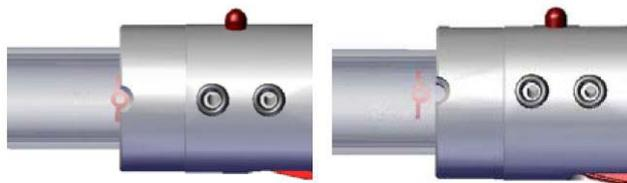

Figure 6-5. Torch assembly - torch body
2. Push the quartz body of the torch fully into the metal torch mount. The marked circle on the quartz torch should be aligned with the notch on the torch holder assembly. The associated line marking on the torch should be aligned with the edge of the torch holder assembly. See Figure 6-5.